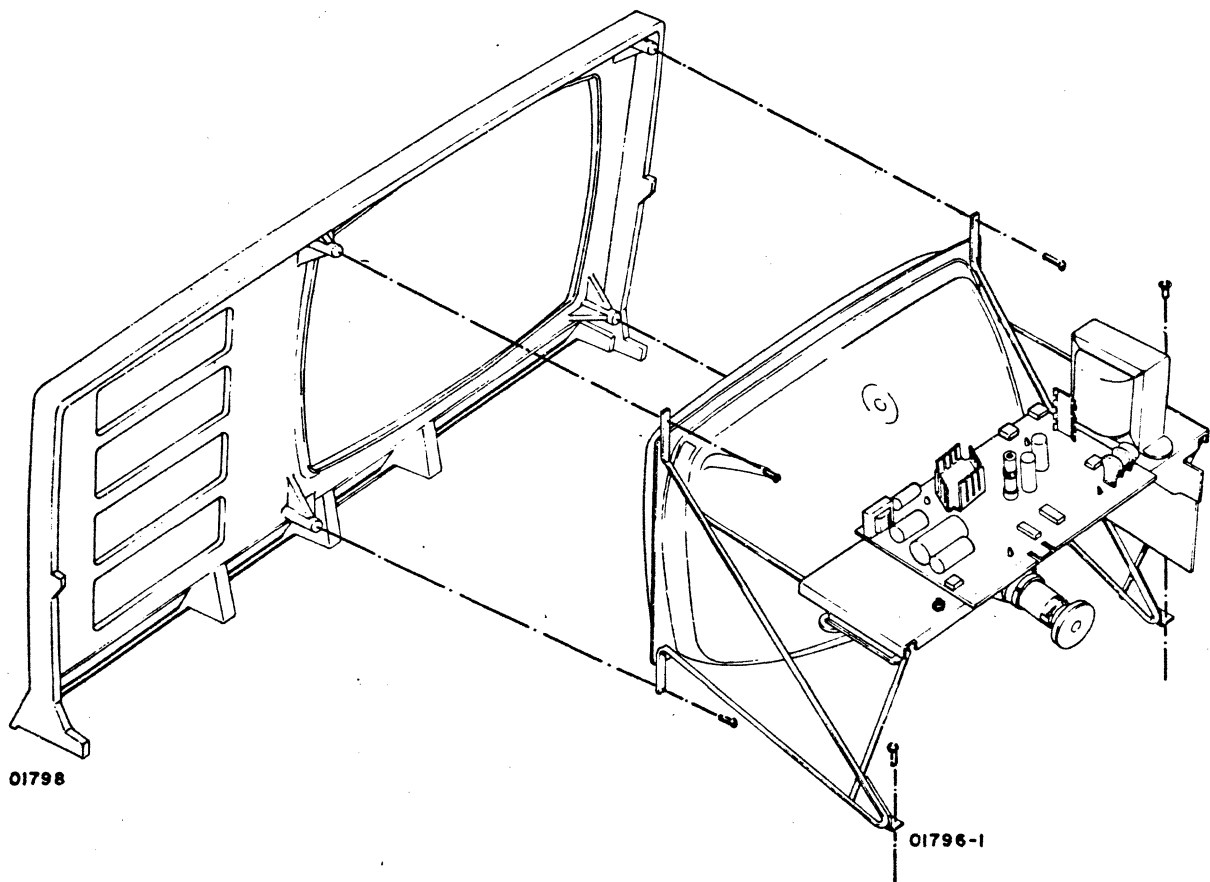

Figure CRT14. Video Module Mounting Screws Removal
- 5) Remove six hex screws with a 1/4-inch socket and extension (figure CRT14). Slots in bottom two frame brackets, which mount on bezel, may allow just loosening those two screws.